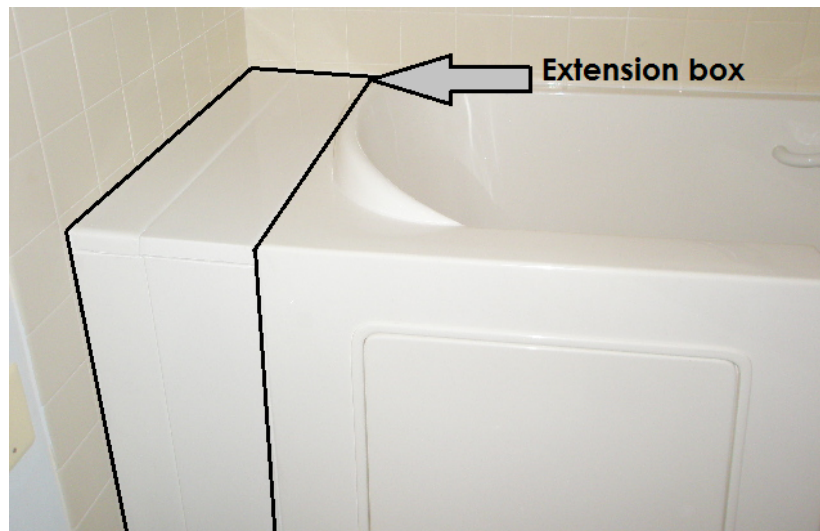

Fig 2A
- D) If there is space it can be filled with an extension box. This will allow the space to be converted to a shelf area. (see Fig 2A)